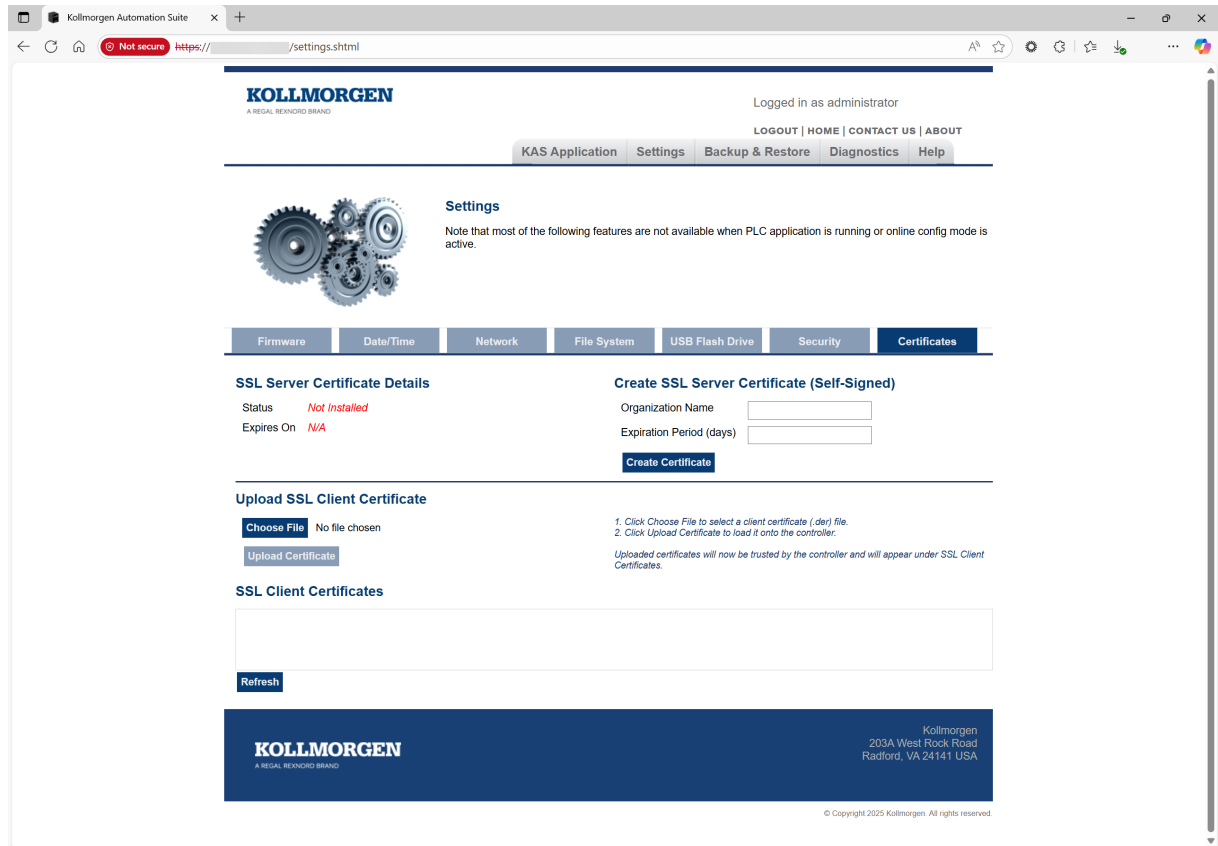

Figure 3-13: Certificates tab
- b. Click the **Certificates** tab. (Figure 3-13)